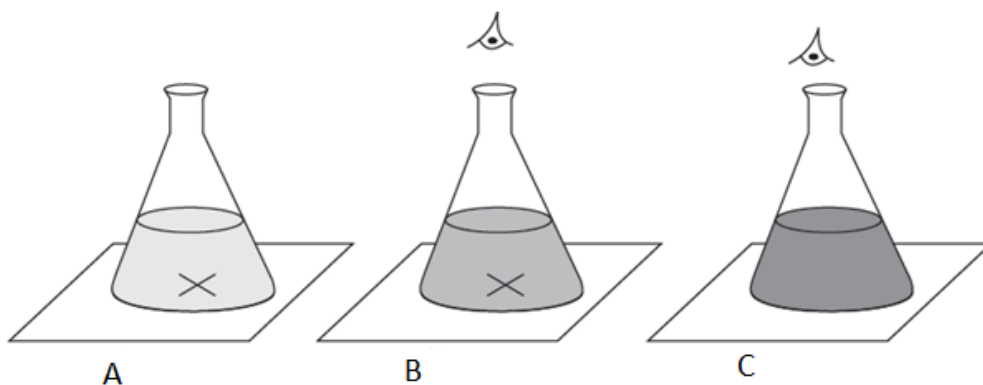

Figure 13.1: Effect of the concentration on the rate of the reaction
4. Look down at the cross from above as it is shown in the figure 13.1. When the cross disappears, stop the watch and note the time taken. Record your results in the table shown below.